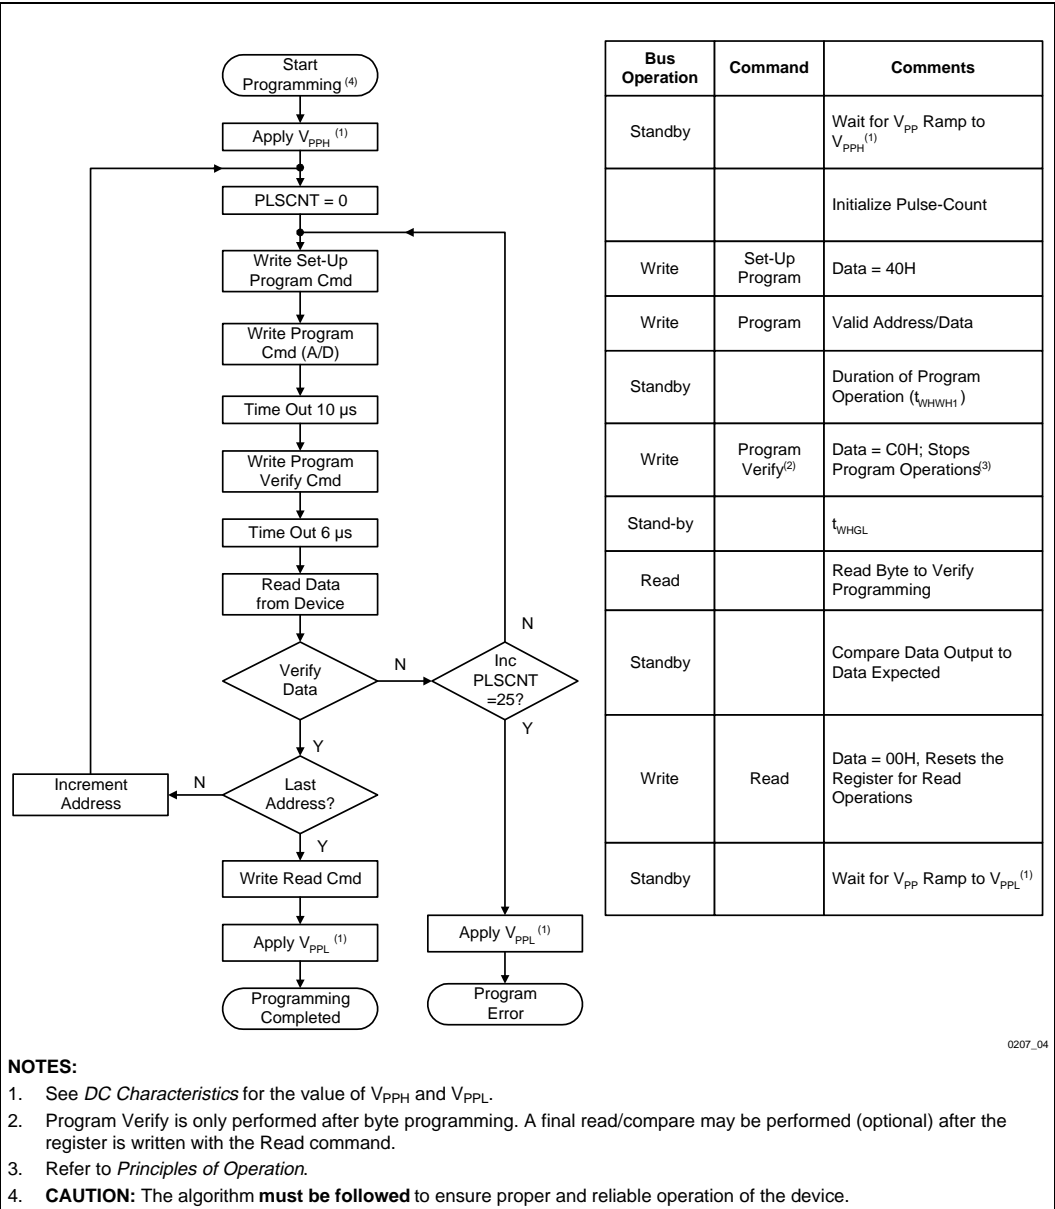

Figure 4. 28F010 Quick-Pulse Programming Algorithm
6. Figure 4 illustrates the *28F010 Quick-Pulse Programming Algorithm* flowchart.
The quick-pulse programming algorithm uses programming operations of 10 μ s duration. Each operation is followed by a byte verification to determine when the addressed byte has been successfully programmed. The algorithm allows for up to 25 programming operations per byte, although most bytes verify on the first or second operation. The entire sequence of programming and byte verification is performed with V_{PP} at high voltage. Figure 4 illustrates the *28F010 Quick-Pulse Programming Algorithm* flowchart.